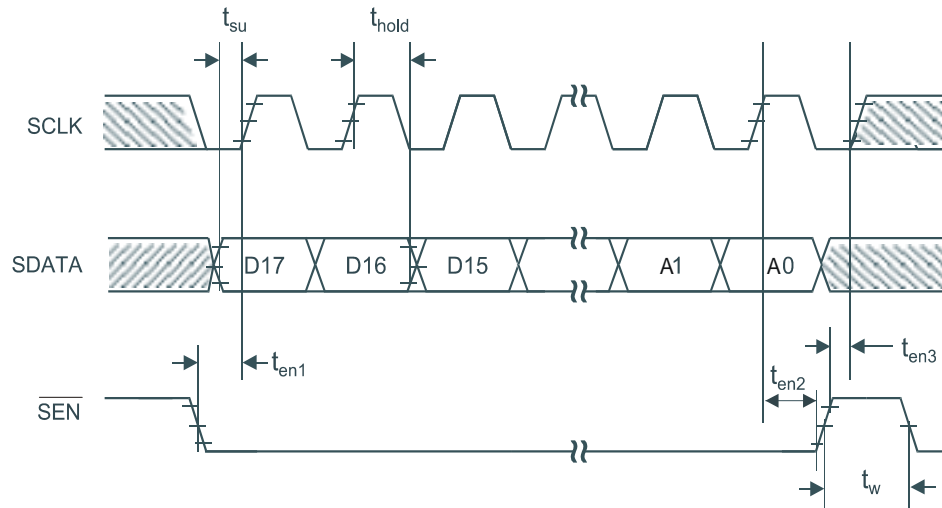
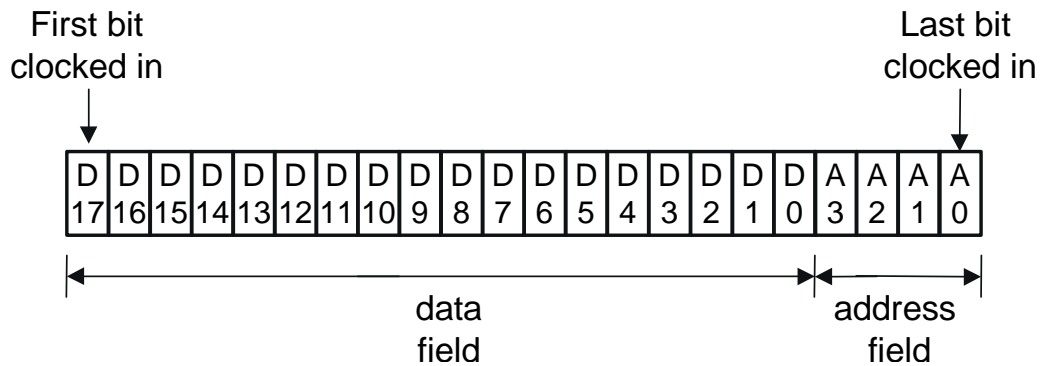

Figure 2. Serial Interface Timing Diagram
Figure 3. Serial Word Format
2. Timing is not referenced to the 50% level of the waveform. See Figure 2.
A timing diagram for the serial interface is shown in Figure 2 on page 7. Figure 3 on page 7 shows the format of the serial word.